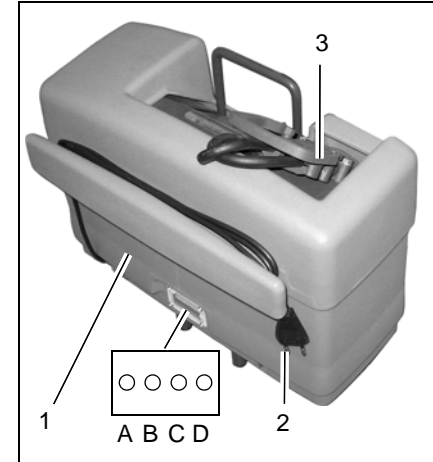

Fig.13
The Power Pack (Fig. 13/1) represents the power supply for the Port A Scrub.
1. Connect the battery plug (Fig. 13/3) to the battery socket on the Power Pack (as illustrated in the figure).
2. Insert the power plug (Fig. 13/2) in a mains power socket.
- LED (A) lights up yellow = <80% charge
- LED (B) lights up yellow = >80% charge
- LED (C) lights up green = 100% charge
4. Following the charging process, disconnect the power plug again. Errors are signaled by the red LED (D). Contact your authorized Minuteman service center in the event of an error!